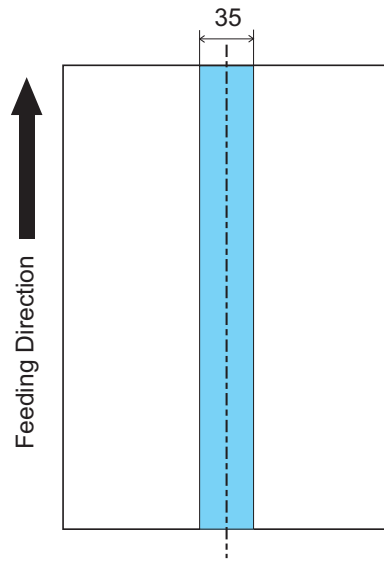

Fig.2
- Punched holes are not allowed within 35 mm (1.4 in) of the vertical center line of the document as shown in Fig. 2.